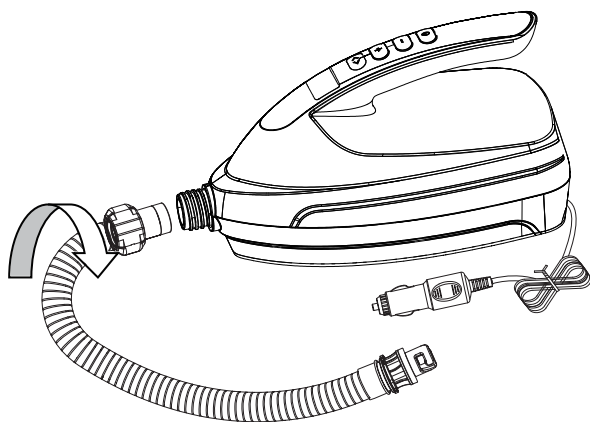

Figure 1
- Connect the end of the hose with the flexible conduit adapter to the air pump's inflation inlet, and twist clockwise to tighten (Figure 1).